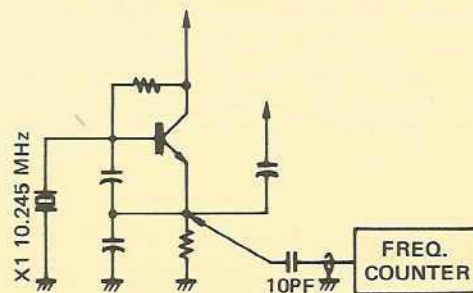

FIGURE 6.
Step 1: Connect Frequency Counter through a 10 pF capacitor to Q6 Emitter circuit. Refer to Figure 6.